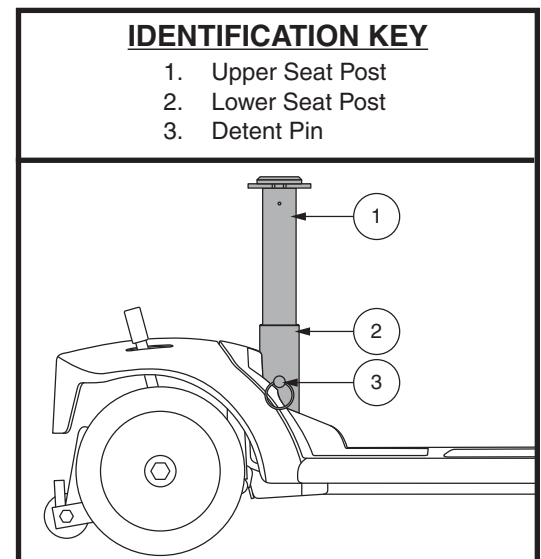

Figure 19. Seat Height Adjustment
The seat can be repositioned to different heights. See figure 19.
2. Remove the upper seat post from the Travel Scooter by removing the detent pin from the lower portion of the seat post, then lifting the post straight up and off the Travel Scooter. **See figure 19.**